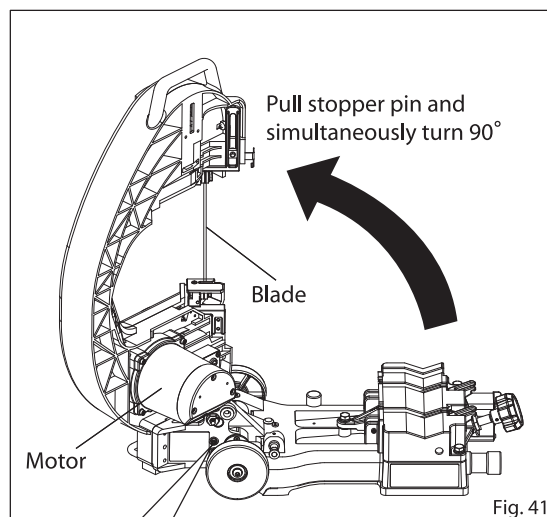
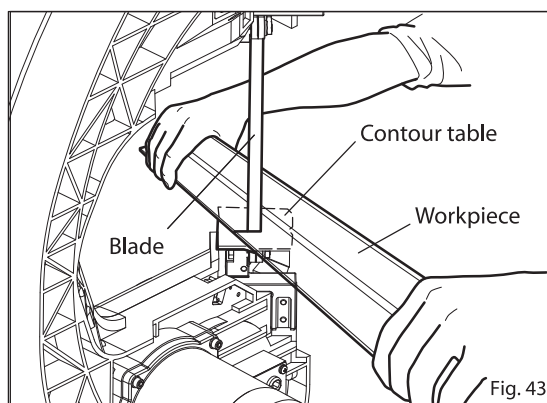

Fig. 41
Fig. 43
## 1. Contour Cutting (Figs. 41 - 43)
- (1) Pull the stopper pin ring to the left of the motor, while simultaneously holding the handle and lifting the frame so it is vertical. (Figs. 41 & 42)
- (2) Set the ON/OFF switch to the "ON" position. The blade will start rotating.
- (3) Place the workpiece on a contour table and cut it slowly. (Fig. 43)